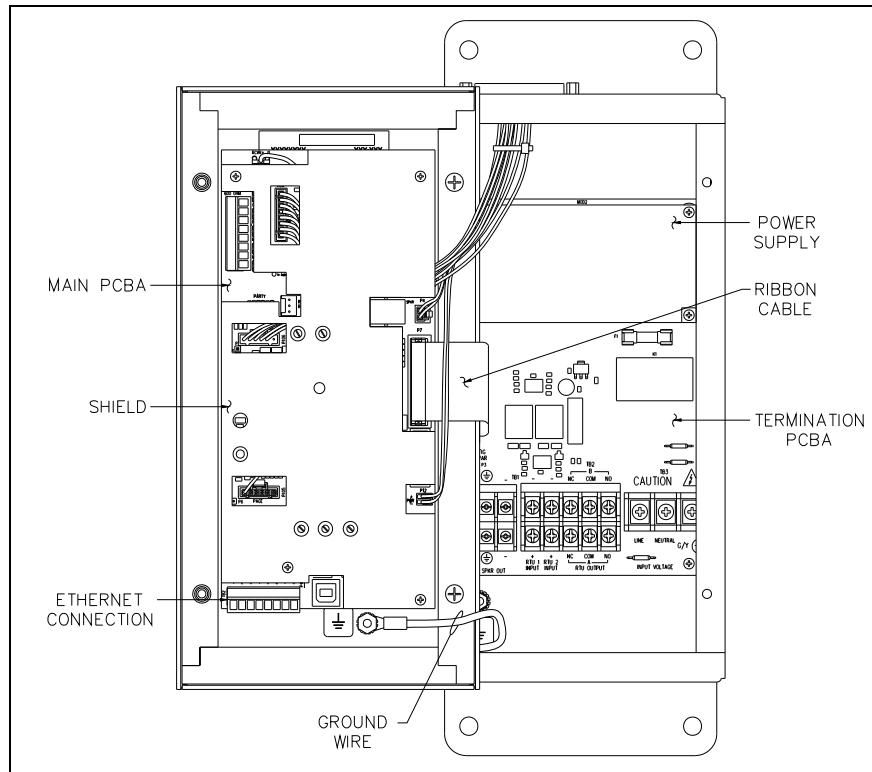

Figure 3. SP2 Standard Remote Station—Interior View
2. Secure it to the ground terminal located in the lower left corner at the back of the rear enclosure (see Figure 3).